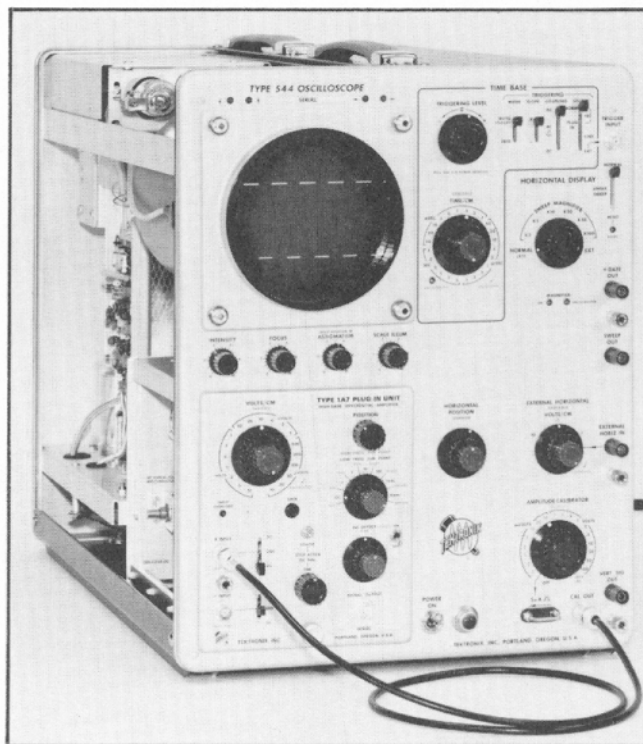

Fig. 6-16. Setup at completion of step 11c.
c. Set the oscilloscope calibrator for a 50-mV output. Disconnect the calibrator signal from the -INPUT connector and apply it to the +INPUT connector. Fig. 6-16 shows the setup.